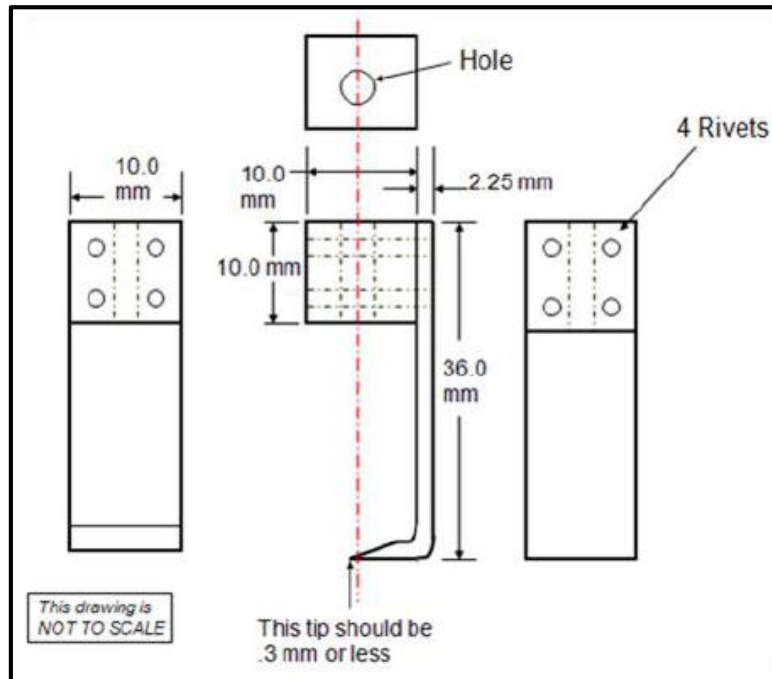

Figure 1: Diagram of Tip for Retention Gauge
3.2.2 Tension Tester Attachment. An attachment per Figure 1 is required for this test.